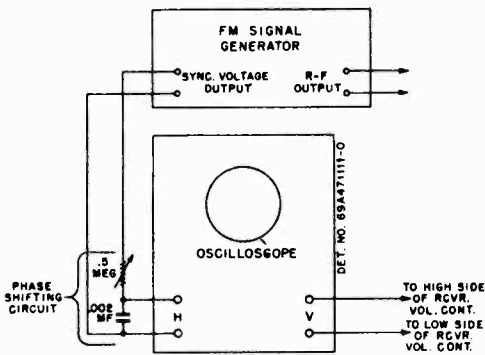

FIGURE 5.
3. Connect the FM signal generator sync voltage output terminals, through a phase shifting network, to the horizontal input terminals of the scope, as in Figure 5. (Other values of resistance and capa-